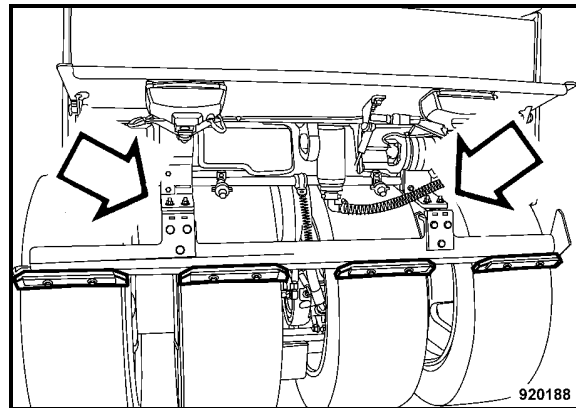

Fig. 143
- Open the rear flap, check the scrapers, replace if necessary (Fig. 143).